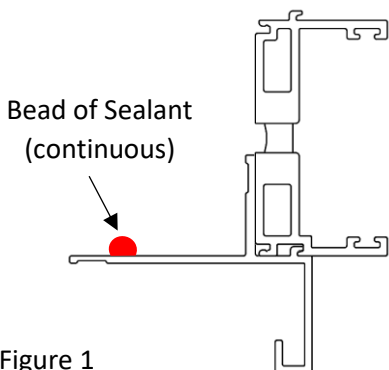

Figure 1
15. Apply a continuous bead of sealant on the nail-fins (Part #13a, 13b, 13c, interior side as shown in figure 1) around the perimeter of the head (Part #14) and jambs (Part #15) of the frame as shown in figure 2, including the nail-fin corner adapter (Part #11). Sealant should conform to AAMA 802.3-16 and 803.3-16.